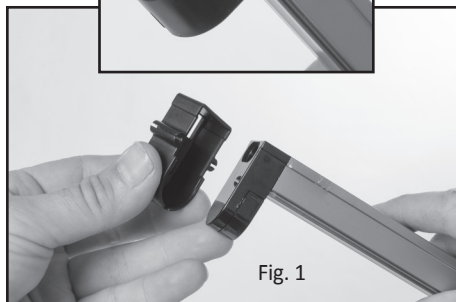

Fig. 1
1. Assemble the plastic cap on the strip. Assemble the other cap in the same way. Please disregard this step if the plastic caps are pre-assembled (see Fig. 1 & 1a).